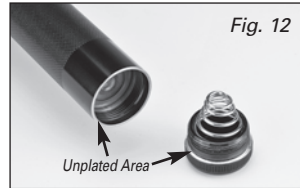

Fig. 12
3. Tighten tail cap – make sure unplated area of tail cap and barrel are clean. See fig. 12